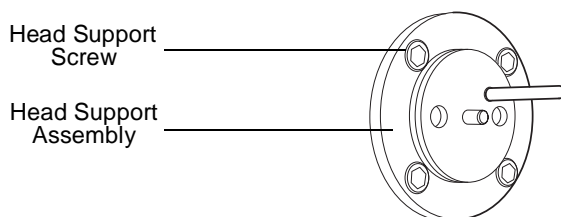

Figure 4-3 Exposed Head Support Assembly
2. Remove the four head support screws with the 9/64-inch Allen wrench (see Figure 4-3), then carefully slide the head support assembly and the indicator rod off the pump. Set the head support assembly on the benchtop.